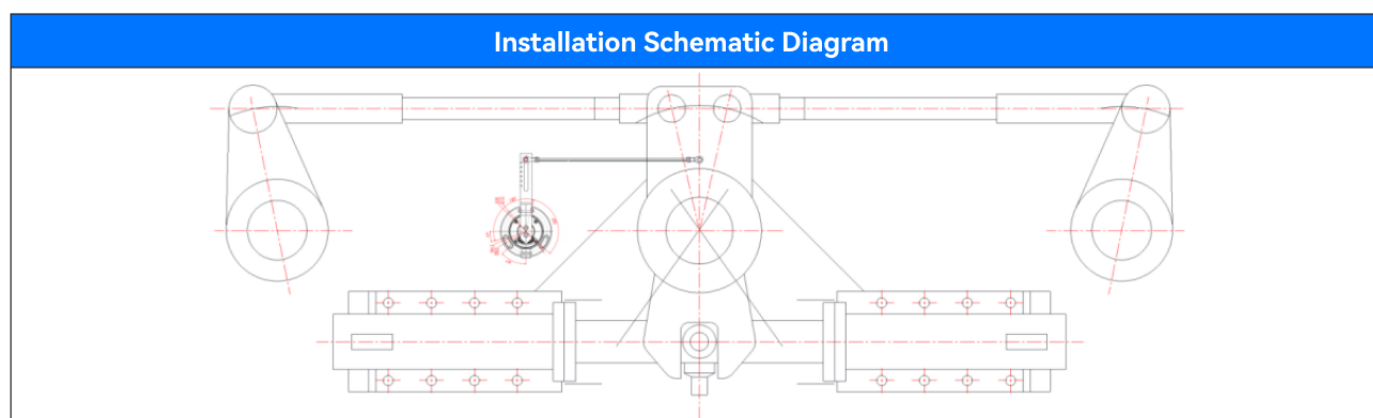

Figure 4.6
2. Installation of the Fork-type Servo Rudder Angle Feedback Device: The fork-type servo rudder angle feedback device is suitable for installation on either the left or right side of the rudder rod. Adjustments should be made based on the specific layout and spatial position of the servo compartment. First, straighten the rudder and keep the rudder angle at the neutral position. Refer to Figure 4.6: the distance from the center of the rudder arm to the center of the feedback device ($AC = BD$) should be approximately 500 mm, and the length of $AB = CD$ should be approximately 150 mm, forming a parallelogram ABCD. Otherwise, significant linear errors and asymmetry between the left and right sides of the rudder angle feedback will occur.